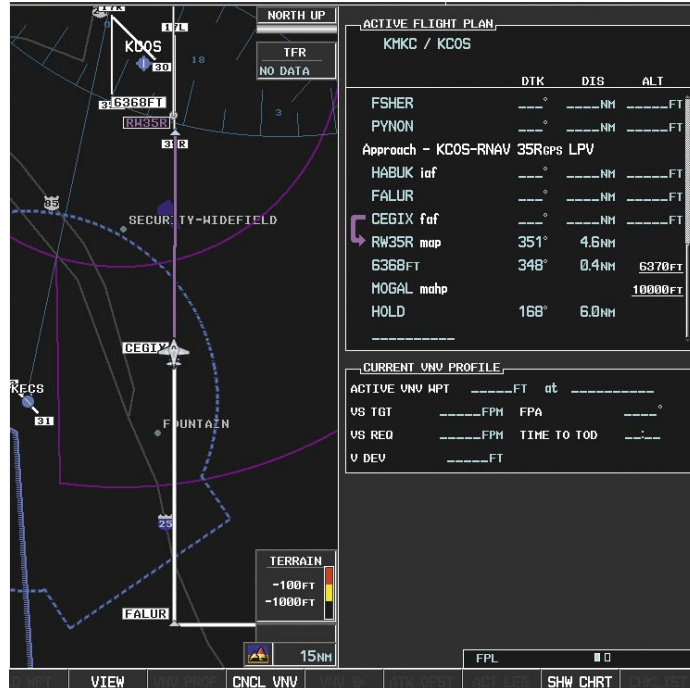

Figure 5-129 Descending to the Missed Approach Point
- 24) After crossing CEGIX, the aircraft continues following the glidepath to maintain the descent to "AT or ABOVE" 6,370 feet at the Missed Approach Point (MAP) (RW35R) as seen in Figure 5-129.